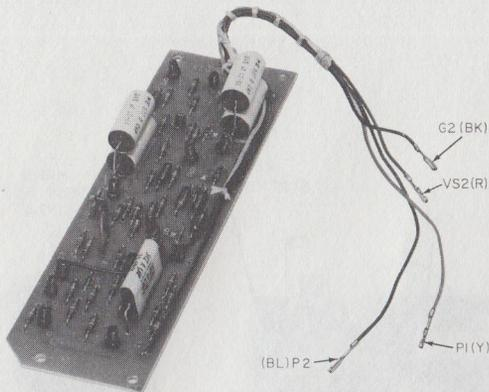

Fig. 4—KS-20721, List 11 Pulse Corrector
- Corrector, Pulse, KS-20721, L11 (Fig. 4)
**2.03** The KS-20721, List 11 pulse corrector (Fig. 4) is not required for initial installations. It shall be used only after it has been determined that the dial pulses received from the customer-provided equipment (CPE) meet all requirements specified in the Technical Reference and pulsing problems still exist. It should not be used to correct poor customer pulses. When adding the List 11 pulse corrector to the List 1 coupler, remove wiring option Q and provide option V as shown in Table B.